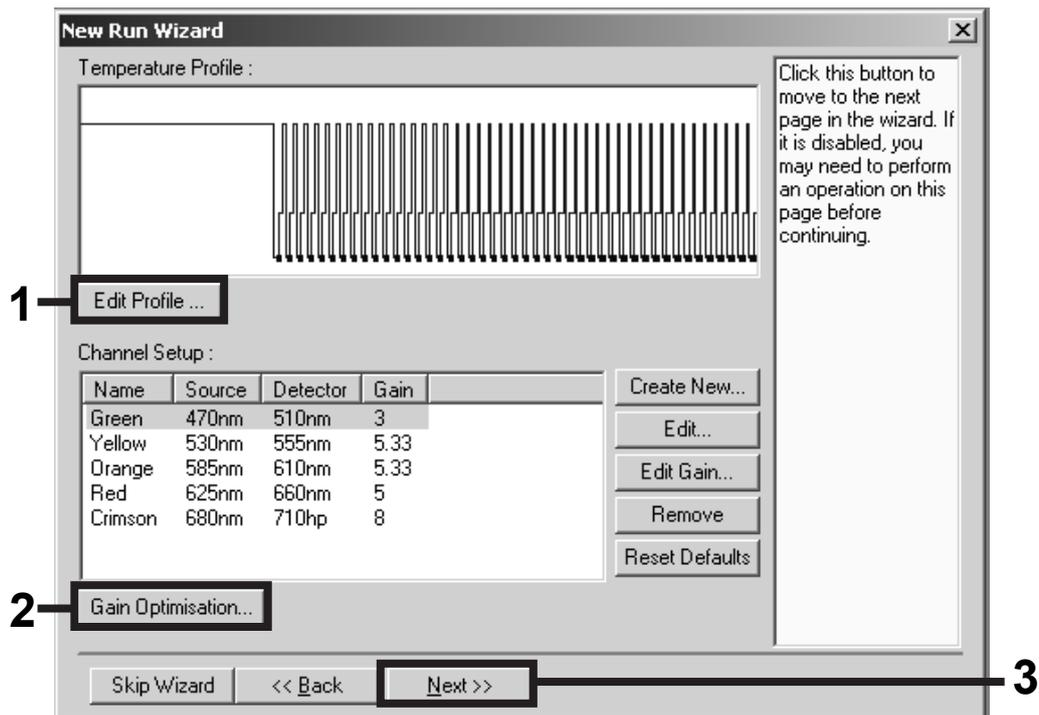
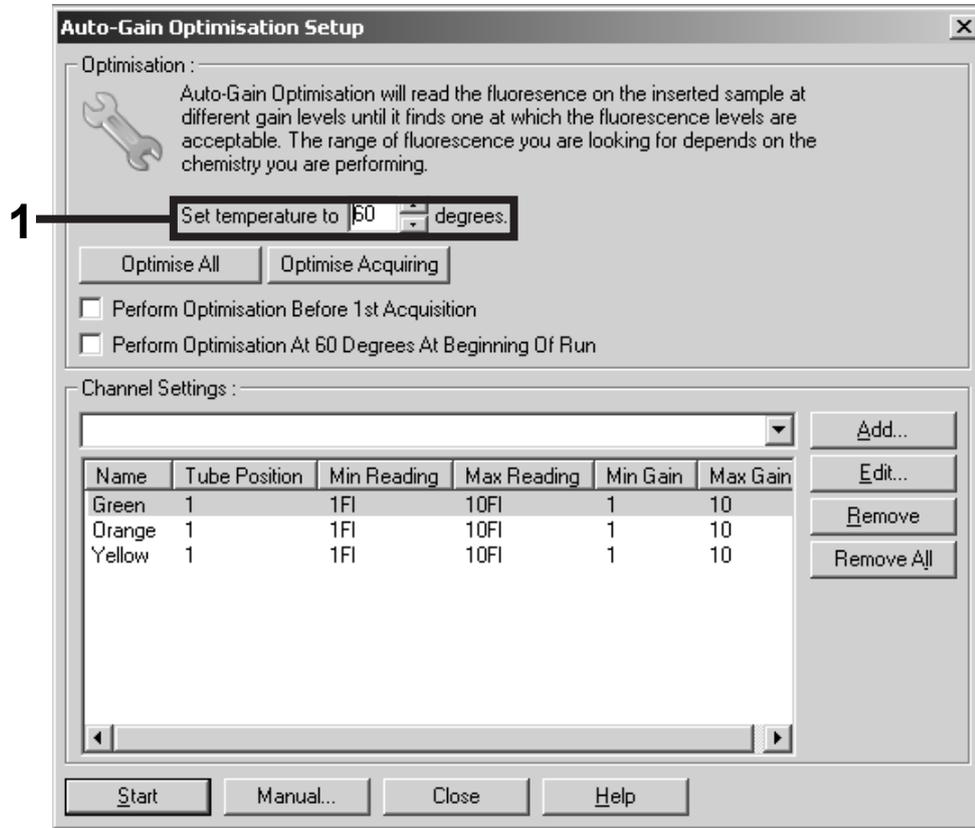

Figure 3. Editing the profile.
Figure 6. Adjusting the fluorescence channel sensitivity.
7. Click the "Edit Profile" button in the next "New Run Wizard" dialog box (Figure 3). Program the temperature profile as shown in Table 1, using the screenshots shown in Figures 3–5 as a guide.
- The detection range of the fluorescence channels has to be determined according to the fluorescence intensities in the PCR tubes. Click "Gain Optimisation" in the "New Run Wizard" dialog box (see Figure 3, page 3) to open the "Auto-Gain Optimisation Setup" dialog box. Set the calibration temperature to 60 to match the annealing temperature of the amplification program (Figure 6).